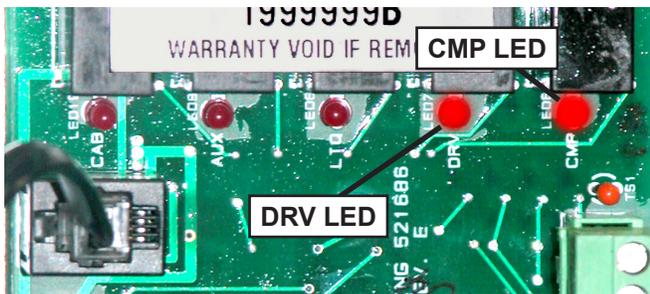

Figure 4-4 IntelliTec LEDs
2. Check for a signal going to contactor. When the spigot is opened or the Push To Freeze button is pressed, the DRV LED on the control board will light up. After three seconds, the CMP LED will light up (Refer to Figure 4-4). If the LEDs do not light up, refer to Section 7 Troubleshooting.